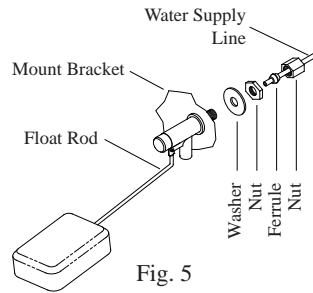

Fig. 5
- **Float valve.** Install the float valve to the mount bracket in the cooler (Fig. 5) and attach water supply line. Note: 75/85 and 95 units come with the float valve installed. For the other models, the float is purchased separately.